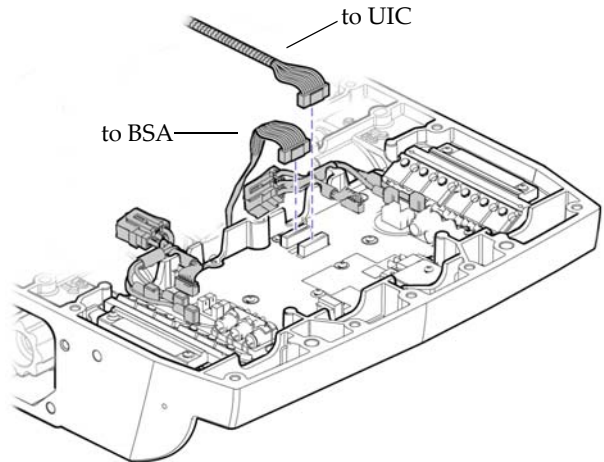

Figure 11-6: Connect Harnesses to CU Board
6. Connect balance sensor assembly harness and CU harness to socket on CU board. See Figure 11-6.